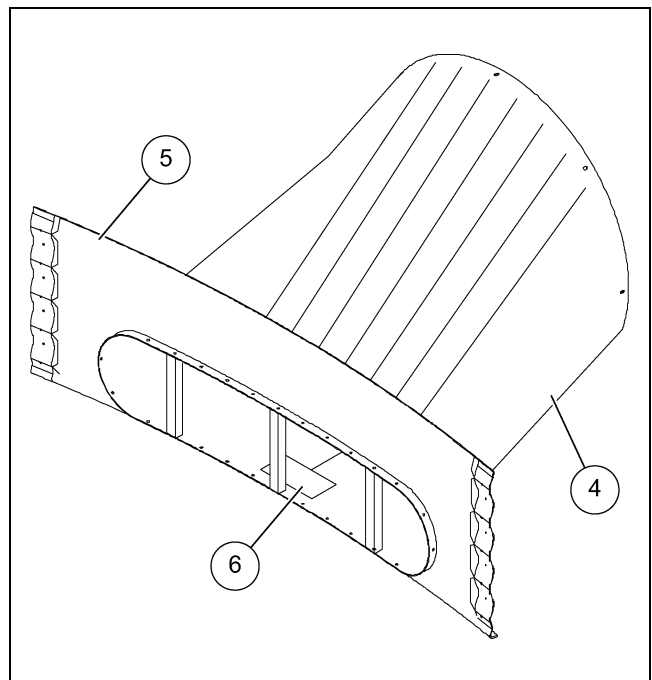

Figure 3
2. An access hole must be cut for the stiffener in bottom of the transition housing. Cut a 4-3/4" x 7-1/4" hole in the bottom center of the transition before attaching the transition to the bin. (See Figure 3 on Page 2.)